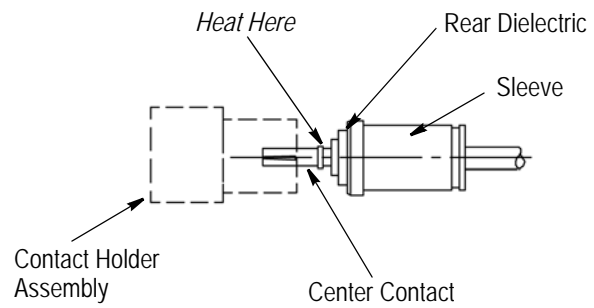

Figure 4
9. Position the center contact in the contact holder assembly. Heat the center contact, then push it over the cable dielectric until the large diameter end of the center contact rests firmly against the rear dielectric. See Figure 4. Remove any excess solder.